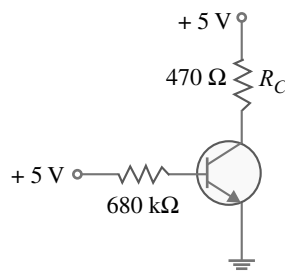

Fig. 6.81
15. Draw the d.c. load line for Fig. 6.81. [The end points of d.c. load line are 10.6 mA and 5 V]
16. If the collector resistance  $R_C$  in Fig. 6.81 is increased to 1 kΩ, what happens to the d.c. load line? [The end points of d.c. load line are now 5 mA and 5 V]